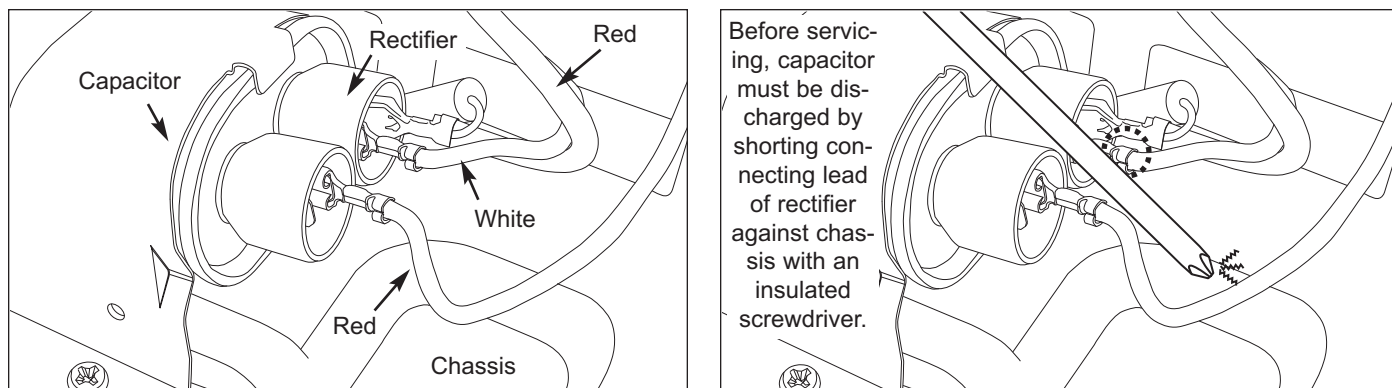

Figure 4-1. Discharge Capacitor
- BEFORE SERVICING MICROWAVE OVEN, THE CAPACITOR MUST BE DISCHARGED BY SHORTING THE CONNECTING LEAD OF THE RECTIFIER AGAINST THE CHASSIS WITH AN INSULATED SCREWDRIVER. FAILURE TO FOLLOW THIS STEP COULD RESULT IN SERIOUS PERSONAL INJURY OR DEATH (SEE FIGURE 4-1 ON PAGE 4-3).
- Discharge high voltage capacitor. (See Figure 4-1 on page 4-3 of this section)